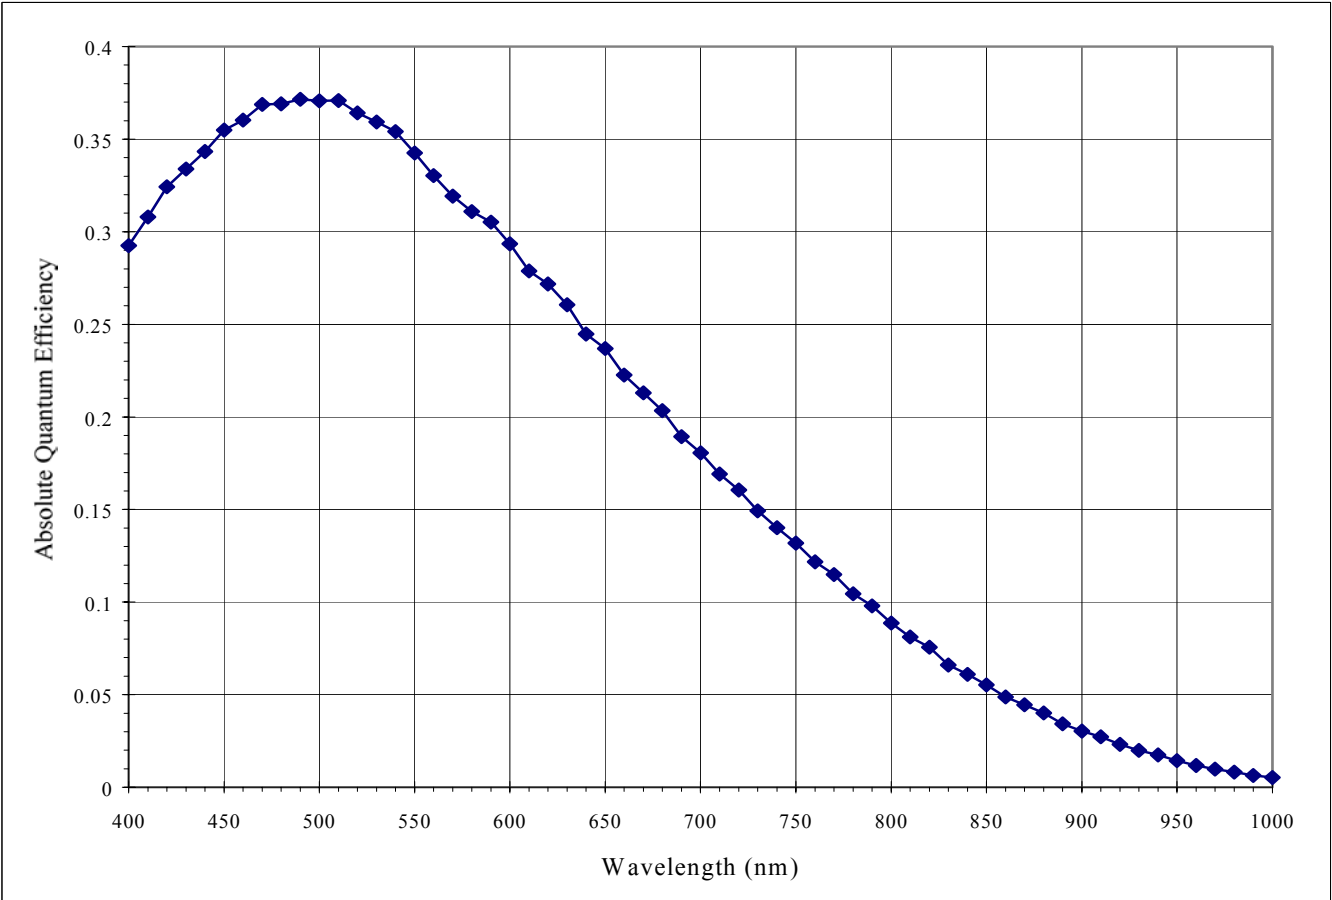

Figure 18 Nominal KAI-0330DM Spectral Response
- 2. Refer to typical values from Figure 18 Nominal KAI-0330DM Spectral Response